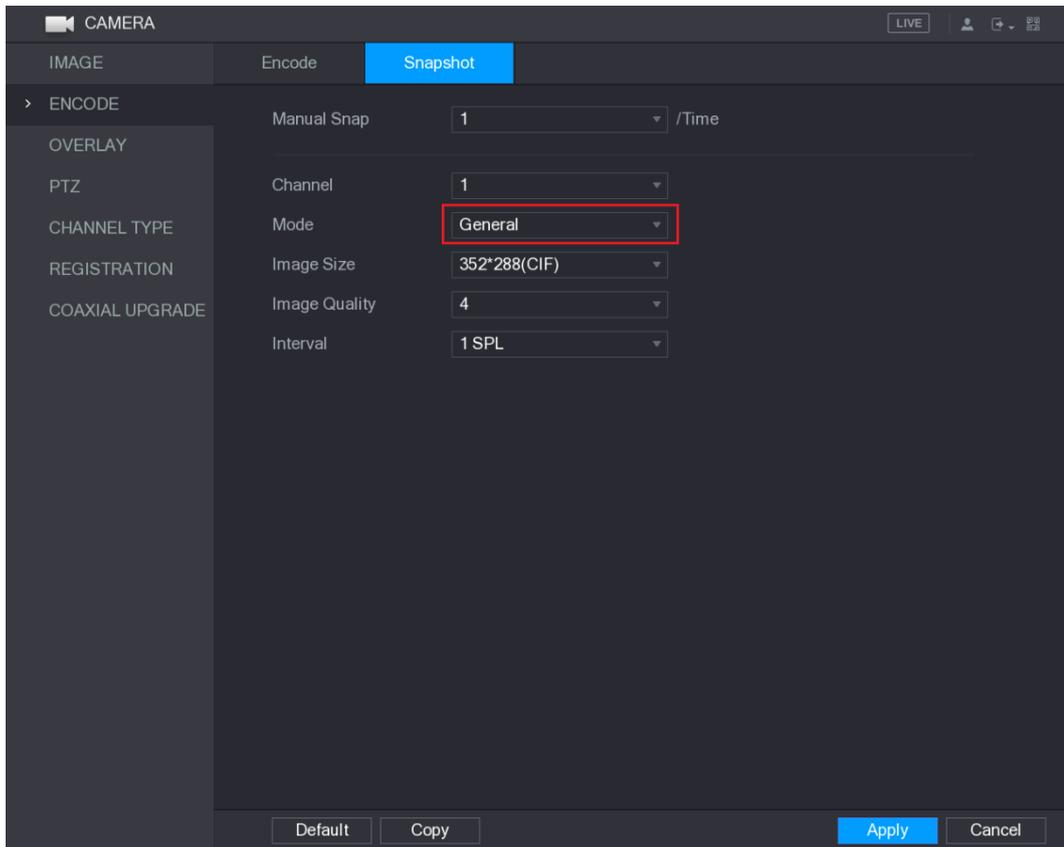

Figure 5-86
**Step 5** In the **Mode** list, select **General**, and then configure other parameters. See Figure 5-86.